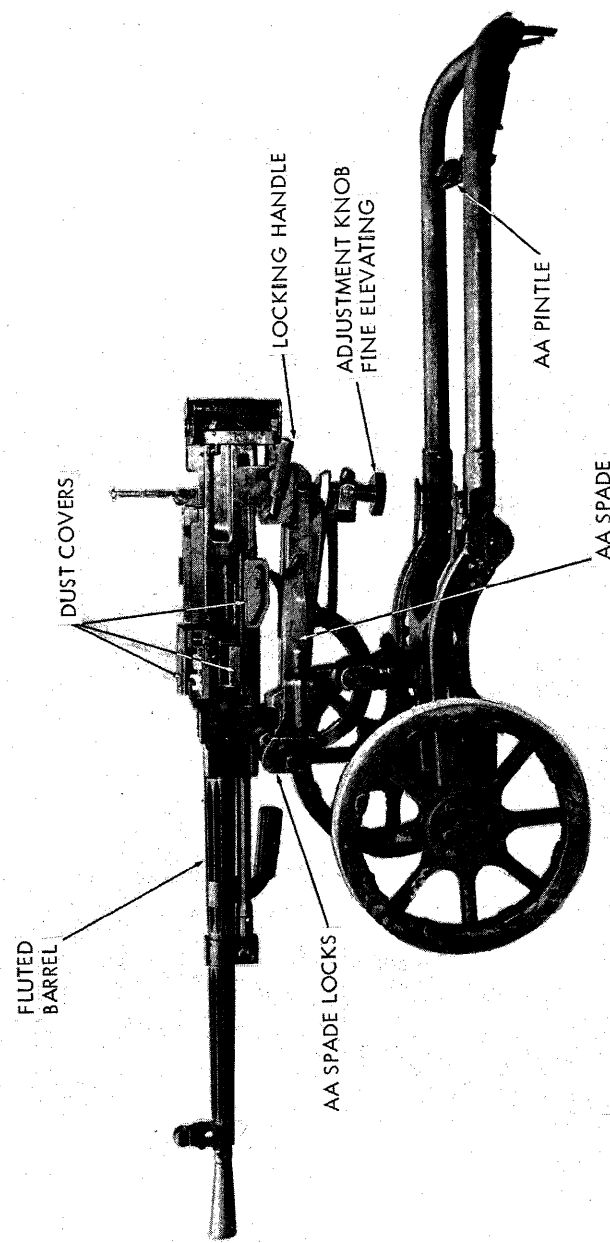
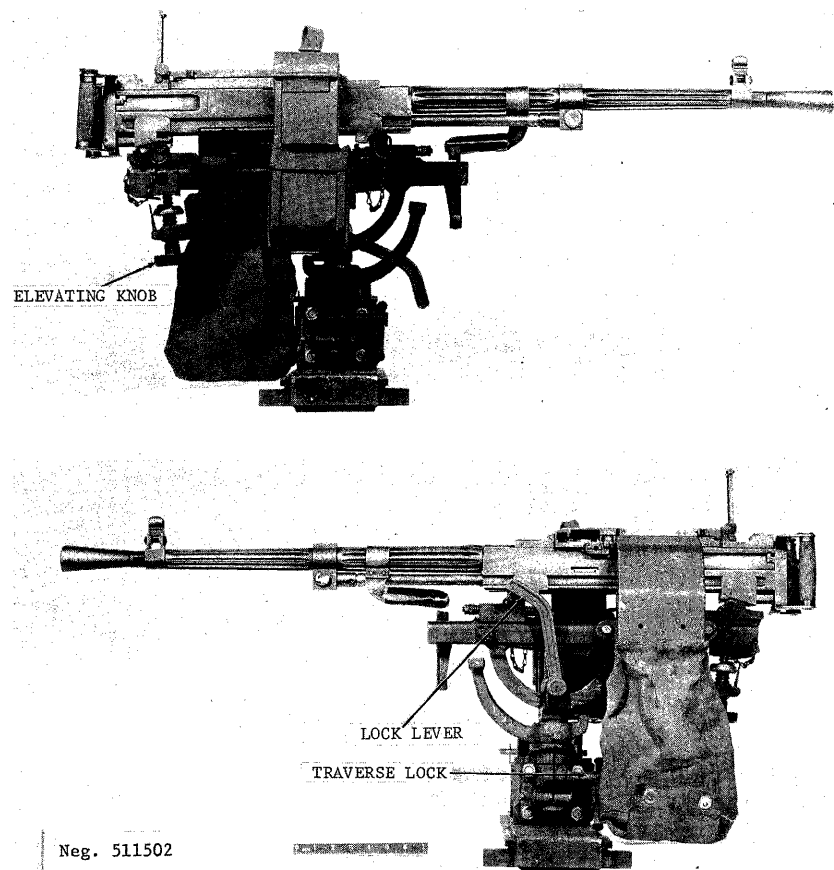

Figure 195. SGMB/PRC Type 57 heavy machinegun.
Figure 203. Early SGM on vehicular mount.
SGMB: Similar to SGM, but has dust cover over feedway ports, feed slide, and ejection port. The SGMB also has semicircular flanges on the lower front of its receiver for mounting on the cradle (fig 195).
a. There are a number of mounts available for the Goryunov machineguns. These include the wheeled Model 1943 (fig 193) and Degtyarev (fig 195) mounts, the Sidorenko-Malinovski tripod mount (fig 202), various vehicular mounts (fig 203), and the PRC Type 70 (fig 204) dual purpose tripod. There are two methods of joining the guns to the mounts. The SG-43, SG-43M, early SGM, and SGMT and PRC Type 53 guns use traverse pins; late SGM, the SGM B and PRC Type 57 models use spring-loaded clamps to hold the gun to the mount.
b. The guns with pin-type mount adapters are installed by positioning them on their mounts and inserting the two mounting pins (fig 192). The guns with clamp-type mount adapters (fig 195) are installed by starting curved flanges on the front mount adapter into their seats on the mount; the rear of the gun is then pressed down into its bracket and insure that the locking handle is as far rearward as possible.